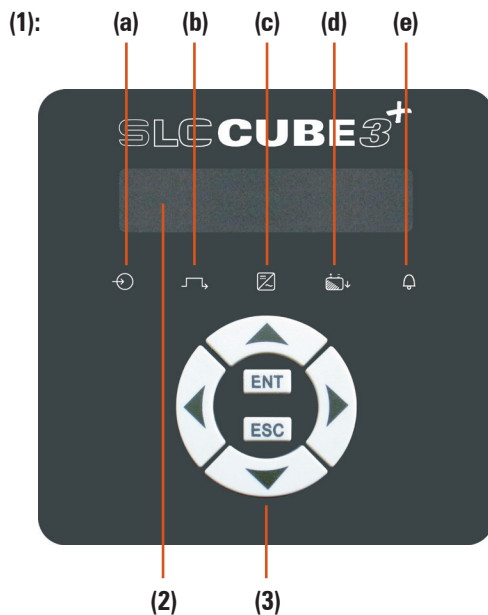

Fig. 46. Control panel parts, according to the model
7.3.3. "MEASUREMENT" level (screen menu 2.0). See fig. 46.
Table 6 shows the screens that ARE NOT AVAILABLE in some settings, taking the “three phase input / three phase output” setting as maximum conceptual exponent and represented in submenu of Fig. 46, which shows the measurement figures as an example.